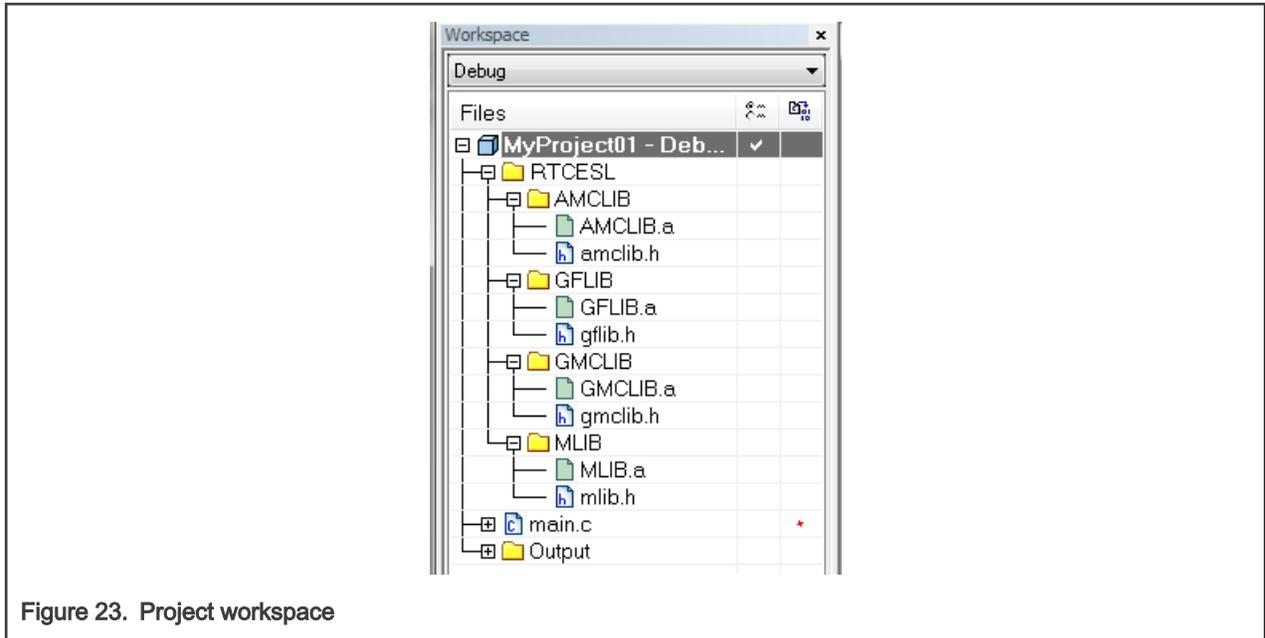

Figure 23. Project workspace
4. Click on the newly created node MLIB, and go to the main menu Project > Add Files... See Figure 23.
23. Now you will see the files added in the workspace. See Figure 23.